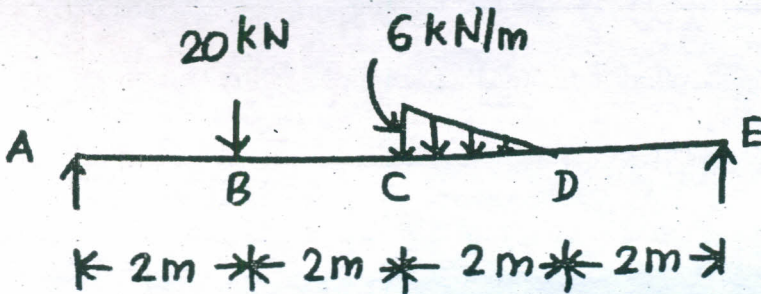

Fig. Q. 12(a)
12. (a) Draw SFD and BMD and find the maximum bending moment for the beam given in Fig. Q. 12(a).